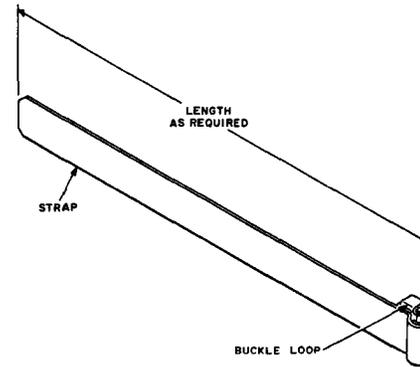

Fig. 3—B Lashed Cable Support
2.03 The B lashed cable support (Fig. 3) is a stainless steel strap 3/4 inch wide with a buckle loop for holding and terminating the wraps of the strap.